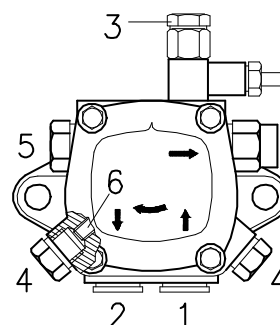

Fig. 18
7.3 Pump (Fig. 18)
- In order for self-priming to take place, one of the screws 3) (Fig. 18) of the pump must be loosened in order to bleed off the air contained in the suction line.
In order to adjust pump pressure, use the relevant screw 5) (Fig. 18 pag. 17)